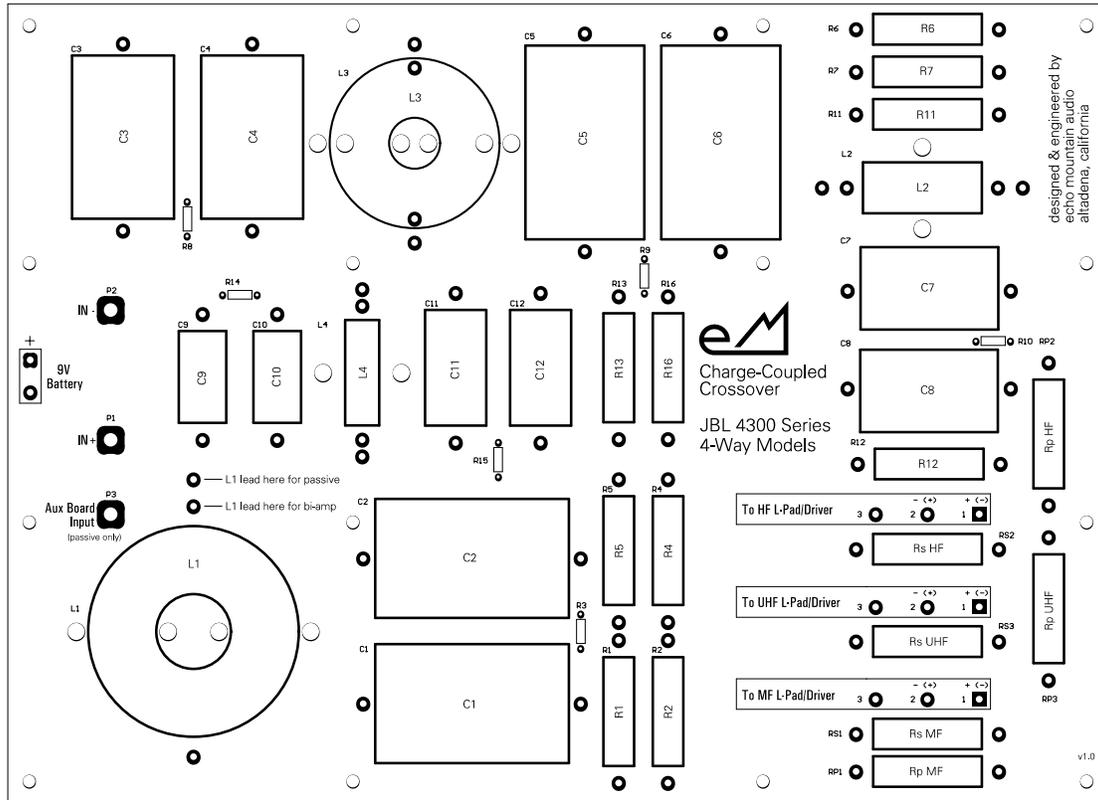
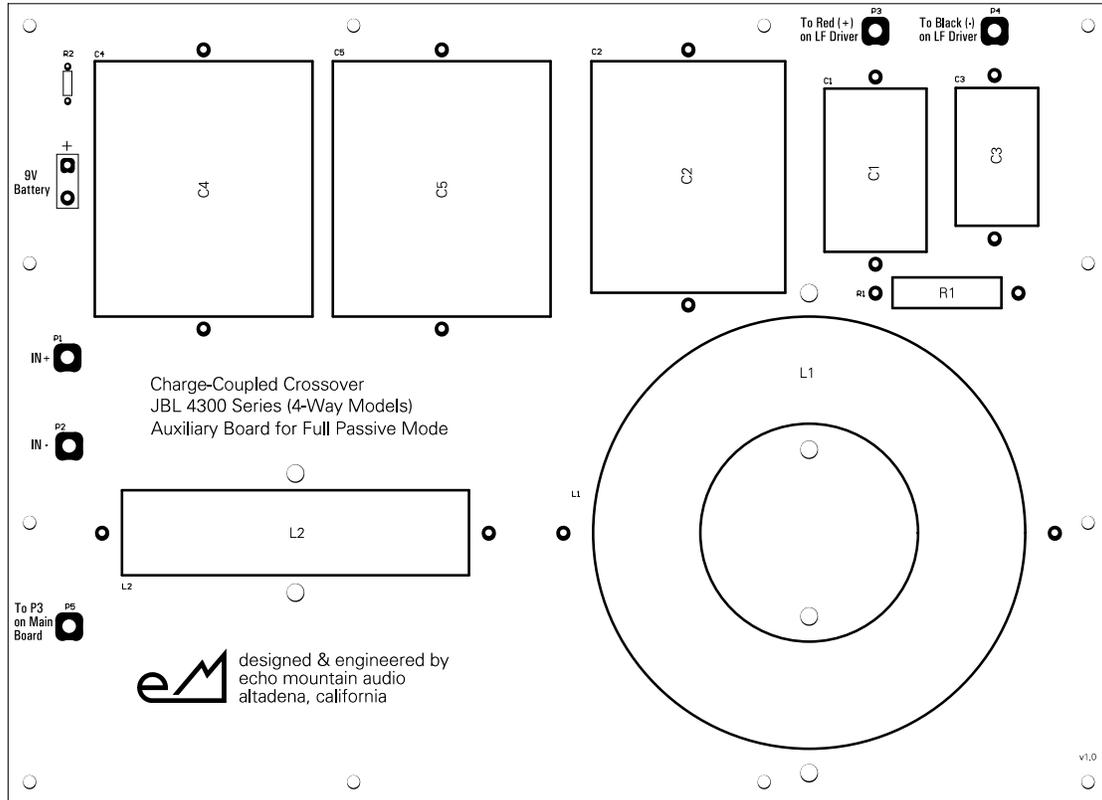

Figure 1: Main Board (top view)
Figure 2: Auxiliary (Aux) Board (top view)
The JBL 4300 series charge-coupled crossover system consists of two boards: a 'Main' board, shown in Figure 1, which contains filters for the mid-frequency (MF), high-frequency (HF), and ultra-high-frequency (UHF) drivers, and an 'Auxiliary' (Aux) board, shown in Figure 2, that contains filters for the MF and low-frequency (LF) drivers.